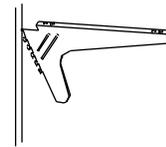

FIG. 1
1. Cantilever brackets are attached to the panels by inserting the teeth along the rear edge into the slotted trimrail on the panel. Cantilever brackets are height adjustable in 1" increments. Each worksurface will be supported by at least (2) cantilever brackets (1 left, 1 right).
4. Holding the front edge of a left hand cantilever bracket (stamped with an "L") higher than the rear edge with the teeth, slide the top safety tooth into the trimrail slot you located in step 3 (Figure 1).